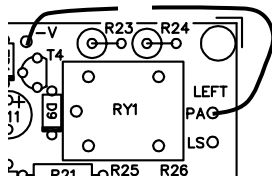

Fig. 2.0
- When the connection is interrupted again (figure 2.0), the red LED should extinguish and after approx. +/- 6 sec. the yellow LED as well.